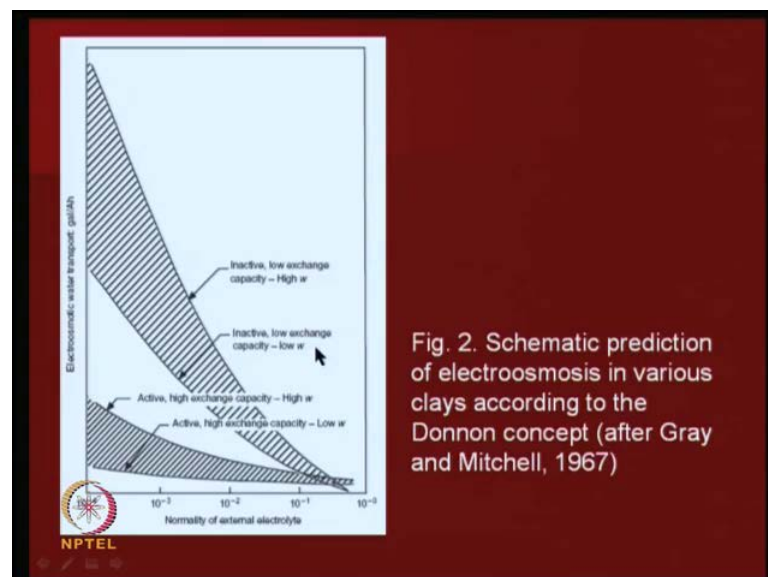

Fig. 2. Schematic prediction of electroosmosis in various clays according to the Donnon concept (after Gray and Mitchell, 1967)
- From such relationships it is possible to predict the behaviour of clay, in terms of electroosmotic efficiency, when in different states—that is, having different values of water content, cation exchange capacity and cation : anion ratios between the diffuse water layer and free water system (Fig. 2).
- The terms 'active' and 'inactive clay' used in Fig. 2 refer effectively to the cation exchange capacity of the clay, which will have a marked influence on the size of the diffuse water layer and hence on the volume of water present within the pore solution available for electroosmotic transport.